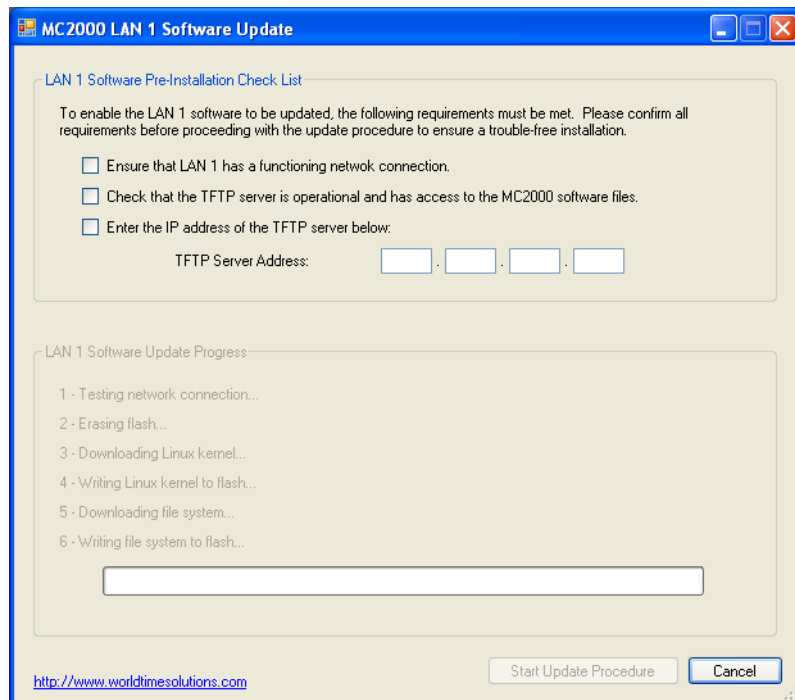

Figure 7.3 - MC2000 LAN 1 Software Update window
- In the section labelled 'LAN 1 Software' (or 'LAN 2 Software' for LAN 2 updates), click on the 'Update' button. The 'LAN 1 Software Update' window (or 'LAN 2 Software Update' for LAN 2 updates) will appear (*see figure 7.3*).